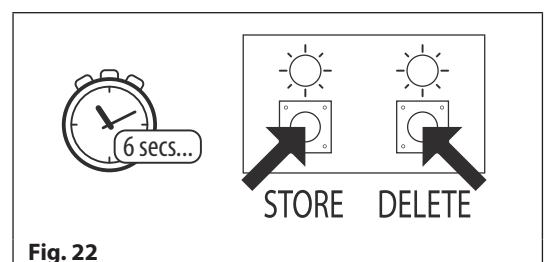

Fig. 22
1. Press and hold down both the store and delete buttons for approximately 6 seconds until both the green and red LED's switch **OFF**, see **Fig.22**.